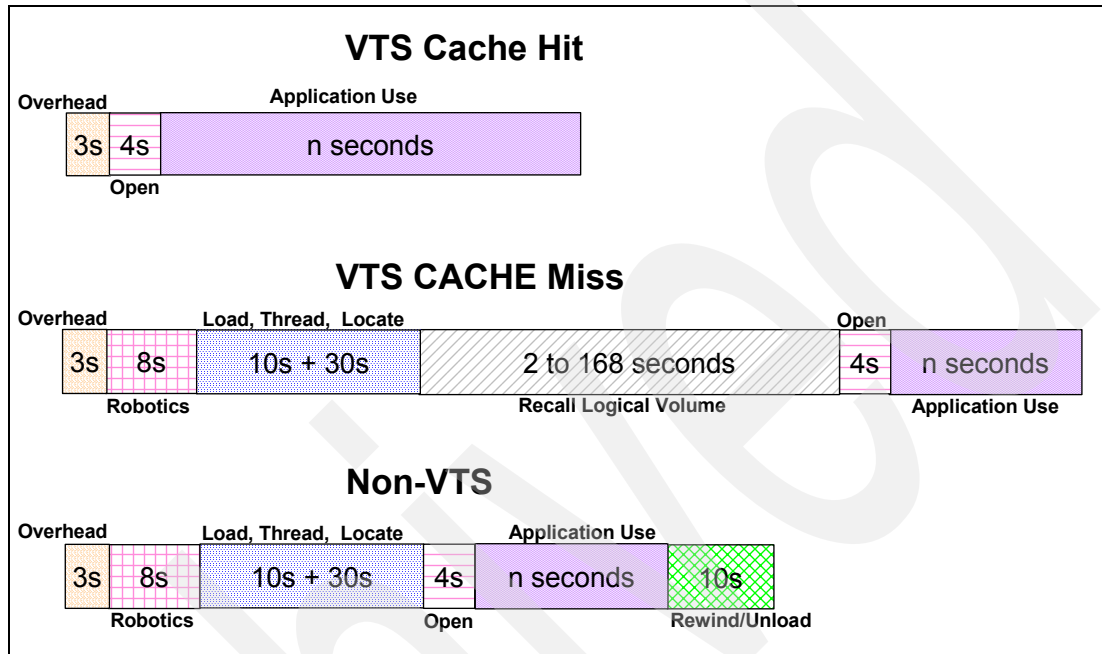

Figure 3-11 Tape processing time comparison (not to scale)
Figure 3-11 shows the effect on a job and drive assignment that a VTS can have as compared to a native drive. The figure is a freehand drawing — it is not to scale. It shows typical estimated elapsed times for elements that would make up the reading of data from a tape. When comparing the three time lines in Figure 3-11, notice that the VTS cache hit time line does not include robotics, load, or thread time at the beginning of the time line, neither does it include any rewind or unload time at the end.
- ▶ **Scratch write mount times:** When a program issues a scratch mount to write data, the VTS uses information held in the TVC to simulate the tape being mounted. We describe the scratch mount process in Section 2.1.2, “Mounting a scratch tape” on page 13. The effect of using the stub data in the TVC is that the performance of scratch mounts is fast, because no physical mount is required. The performance for scratch mounts is the same as for TVC read hits, which are compared with non-VTS in Figure 3-11 on page 76.